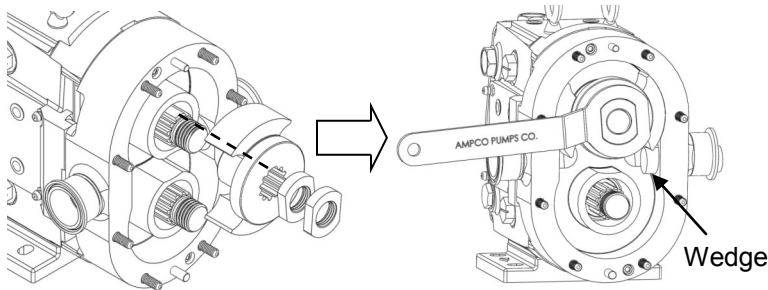

Figure 56: Installing Rotors and Tightening Jam Nuts
2) Install a rotor onto either shaft by aligning the large spline tooth on the shaft with the large spline groove on the rotor. Secure the rotor in the body with the jam nuts. Place one nut on at a time, tightening them down using the supplied wrench and a non-metallic wedge to hold the rotor in place (Figure 56). See Table 7 for required torque values. Repeat with the second rotor.